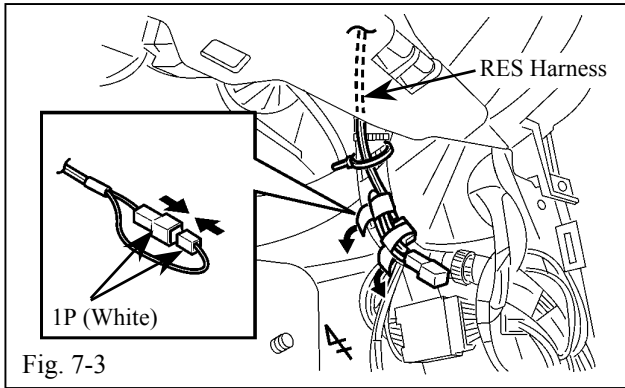

Fig. 7-3
- (c) Locate and disconnect the tape securing the RES harness' white 1P connectors from the passenger side cowl area and connect it. (Fig. 7-3)